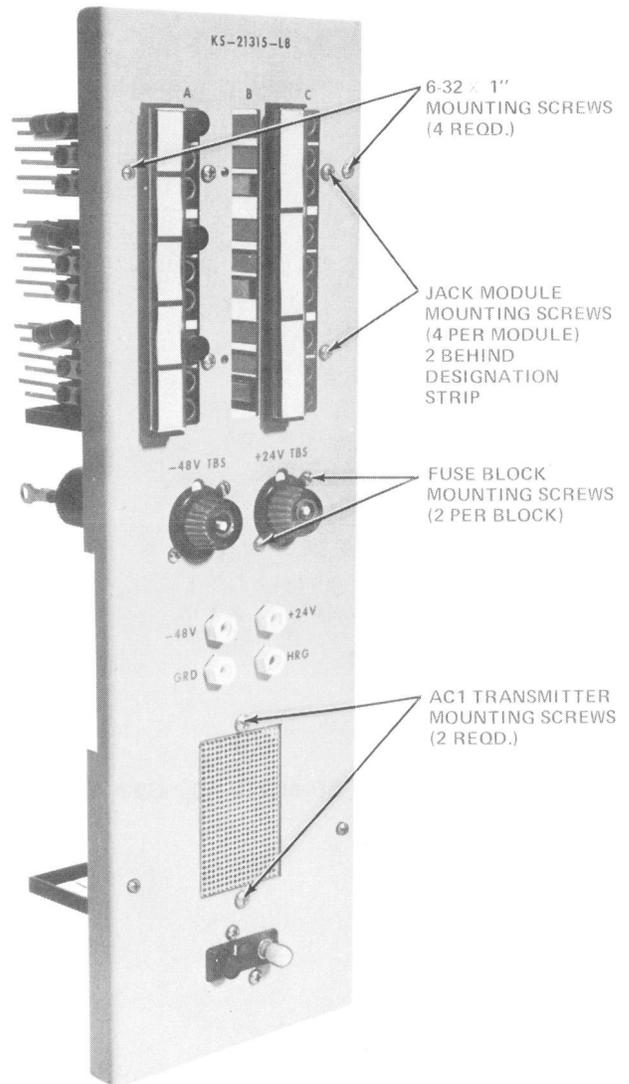
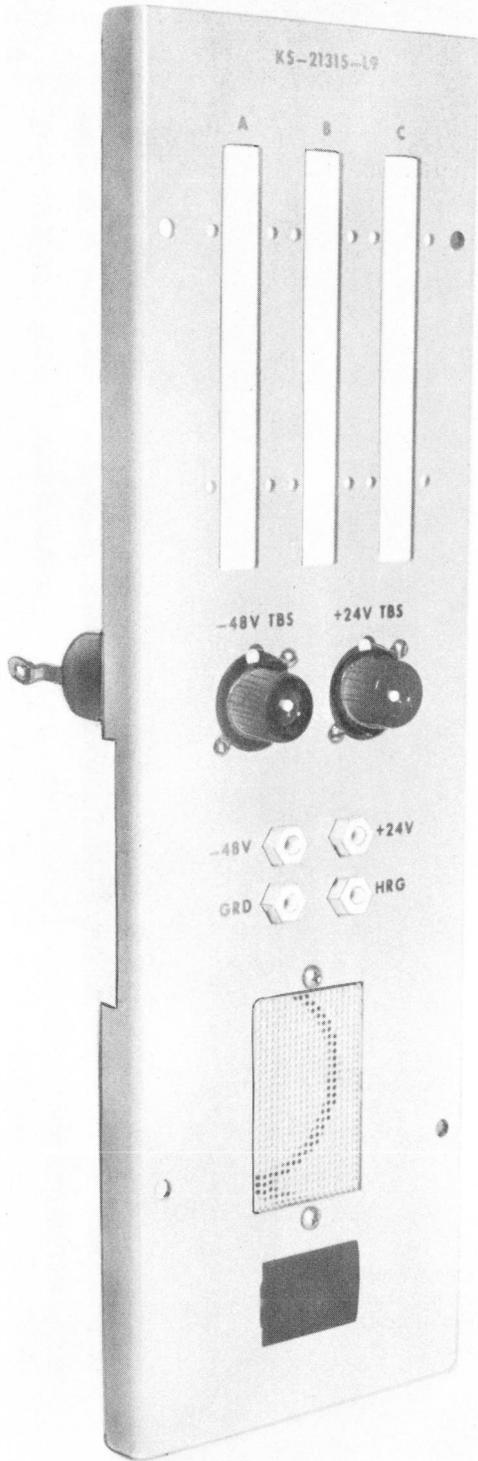
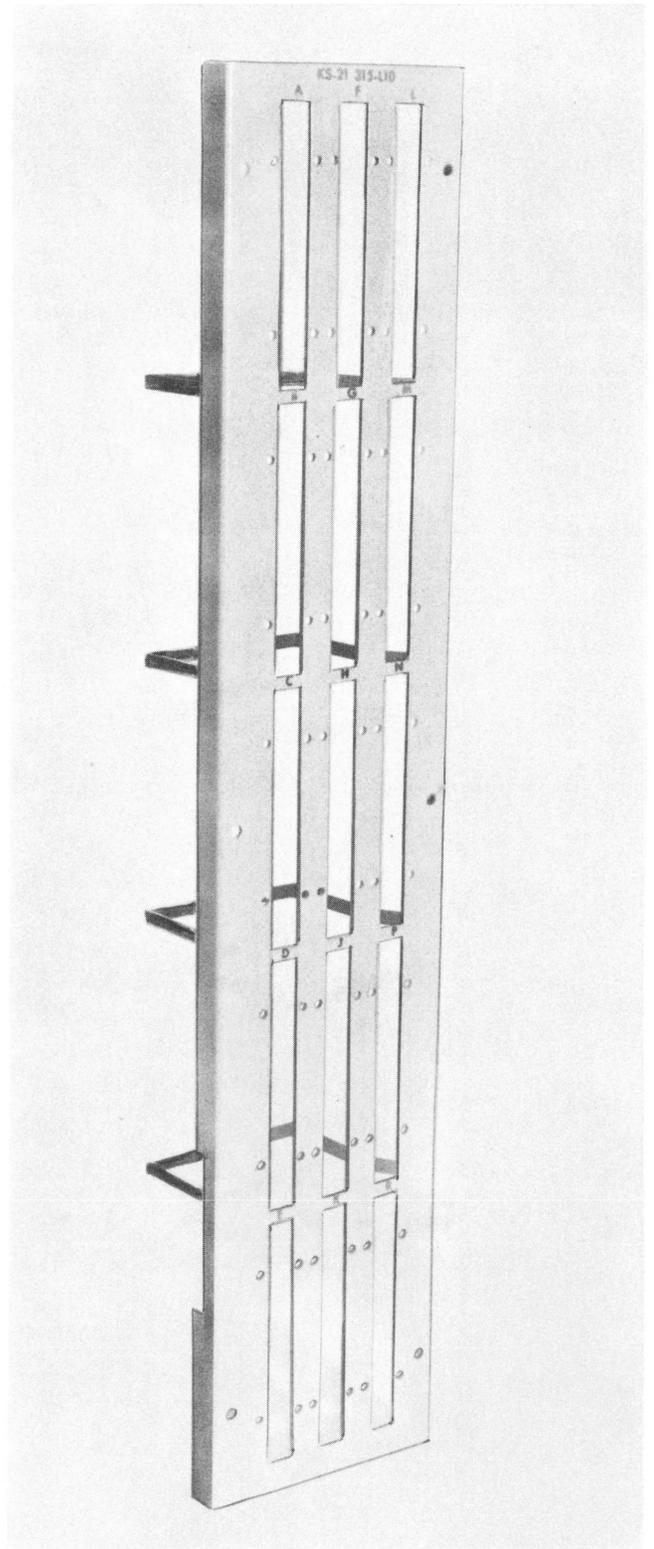

Fig. 15—KS-21315-L8; ED-6C110-10, G8 Test/Talk Panel (Typical Arrangement)
Fig. 16—KS-21315-L9; ED-6C110-10, G9 Test/Talk Panel
Fig. 17—KS-21315-L10; ED-6C110-10, G10 Test/Talk Panel
3.06 The test/talk panels for the modular protector frame are ED-6C110-10, G8, G9 and G10. Figure 15 shows the G8 panel and Figure 16 shows the G9 panel. The difference between these two panels is that the G9 does not contain the AC1 transmitter and its associated pushbutton jack module. Figure 17 shows the G10 test/talk panel. Access to the internal components of these test/talk panels is given in the following steps.
- (1) Remove the 6-32 by 1-inch mounting screws as shown in Figure 15.
4.01 The mounting screws for Part 4, "Replacement of Components," are shown in Figure 15. This panel is a typical arrangement since the jack modules will vary as deemed necessary by the telephone company line engineers.